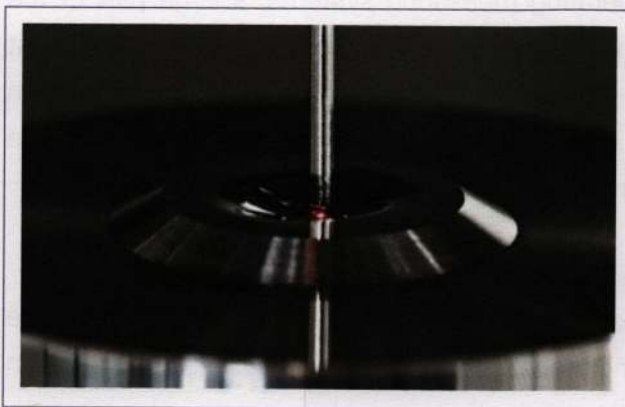

Figure 4 Optical testing of the surface quality of a molded tool with a complex free-form surface.
▶▶ The interferometrical sensor technology allows for surfaces inspections, distance and geometry measurements. The sensor delivers absolute values, gained contactless and of course wear-free. Another typical area of application is therefore surface measurements of lenses or even free-form optical components with complex geometries (Fig. 4).